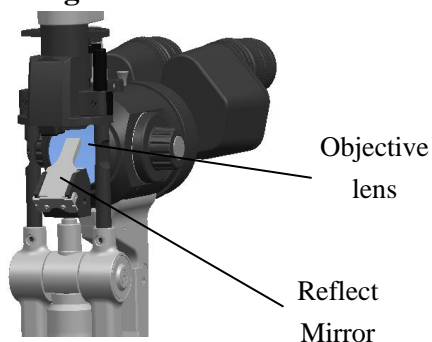

Figure. 4.1.1
1. Cleaning the lens and mirror: If dust adheres to the lens or mirror, gently wipe it off with soft cotton dampened with absolute alcohol (see Figure 4.1.1).